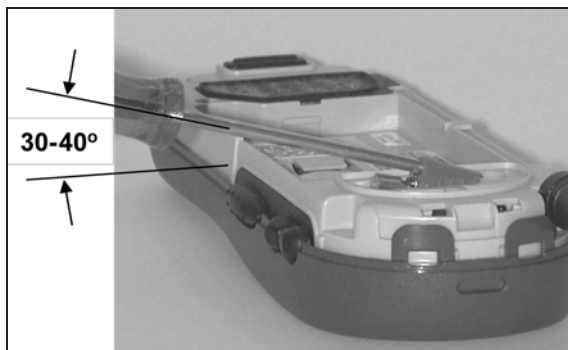

Figure 7-12.
2. Tip up counterweight end to lift vibe out of compartment at a 30–40° angle. Two hooks are exposed. (See Figure 7-12.)